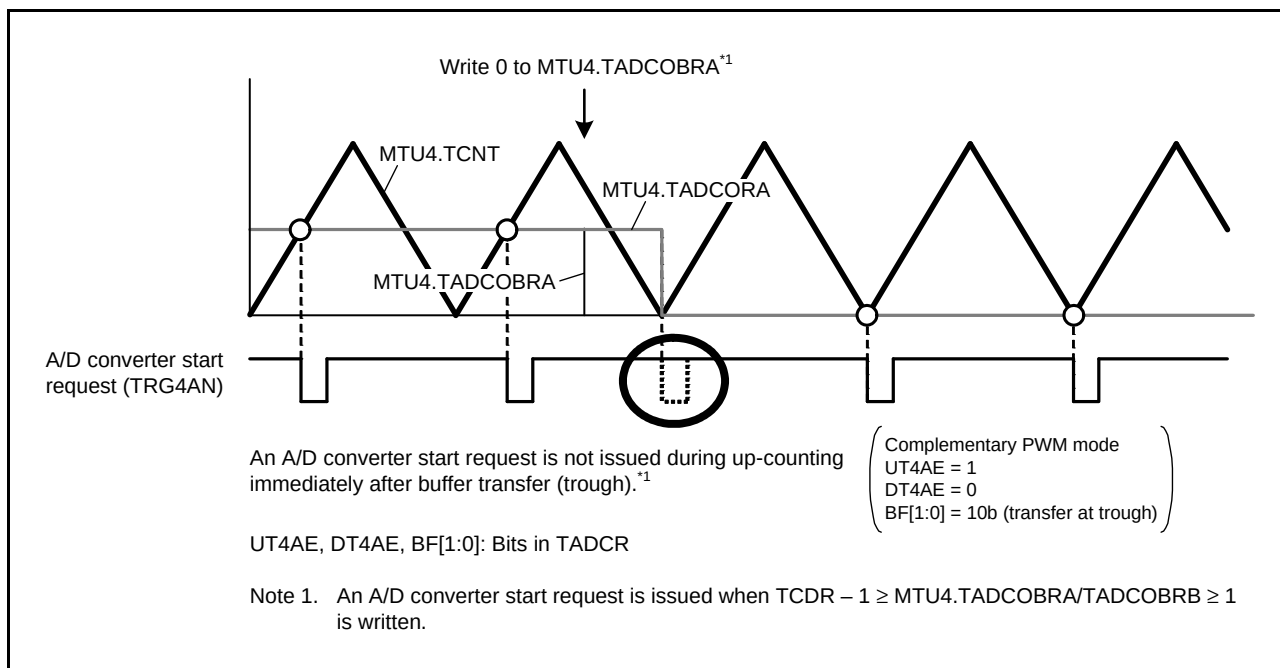

Figure 23.114 A/D Converter Start Request When 0 is Written to MTU4.TADCOBRA
- When data is transferred from a buffer register at the trough of the MTU4.TCNT counter while the MTU4.TADCOBRA and MTU4.TADCOBRB registers are set to 0 and the UT4AE and UT4BE bits in the MTU4.TADCR register are set to 1, no A/D converter start request is issued during up-counting immediately after transfer. Refer to Figure 23.114.